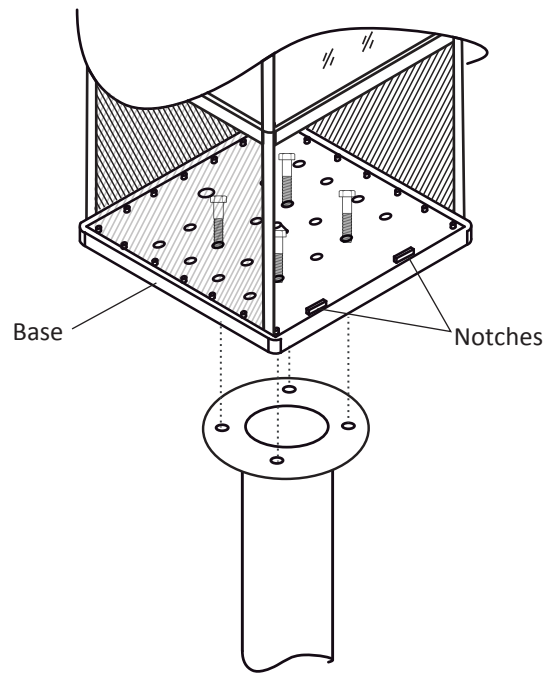

Figure 6
- 5) Align the holes on the machine's base to those ones of the threaded flange according to Fig. 6.